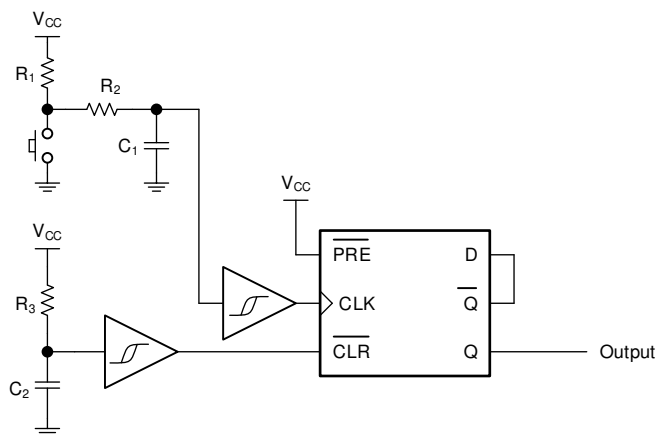

图 9. Typical application schematic
If the data input (D) of the SN74HC74-Q1 is tied to the inverted output (\bar{Q}), then each clock pulse will cause the value at the output (Q) to toggle. The momentary switch can be debounced and connected to the buffered clock input (CLK) to toggle the output. These connections are shown in 图 9